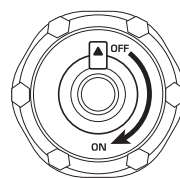

Fig. 3
7. After the generator stops, allow it to cool down and close the fuel cap (set to OFF, as shown in fig. 3).